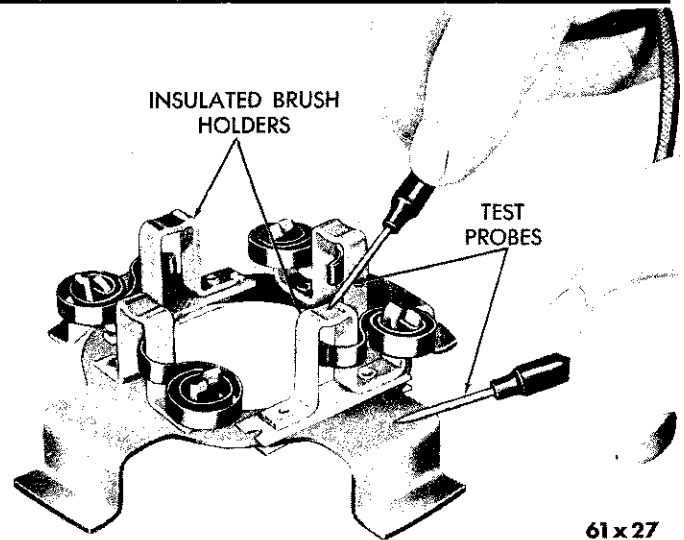

Fig. 12—Testing Insulated Brush Holders for Ground
(7) Touch each of the brush holders with one test probe, while holding the other test probe against the brush ring. Two brush holders that are 180 degrees apart should cause the test lamp to light as they are intentionally grounded. The other two brush holders (Fig. 12) should not cause the lamp to light when tested, as they are insulated. If the insulated brush holders cause the lamp to light when tested, it indicates that the brush holders on the brush ring are grounded. Replace the brush ring assembly if the brush holders are grounded.